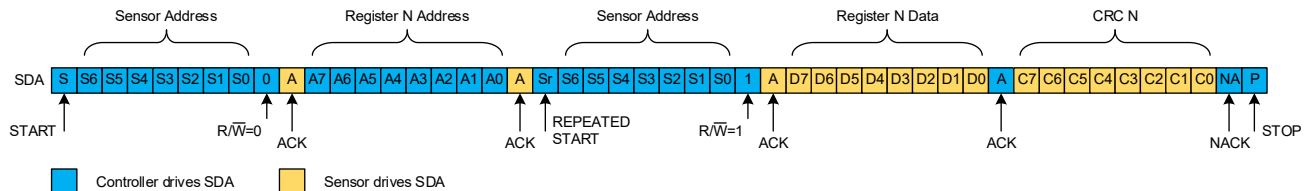

Figure 34: I²C Read Single with CRCEN = 1
- If CRC is enabled (CRCEN = 1), the sensor sends the CRC8 value after each register value (Figure 34).